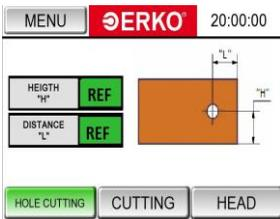

Fig. 11
- Fig. 11 shows the menu for punching and pressing nuts (this is also the default display window when there is no equipment installed)